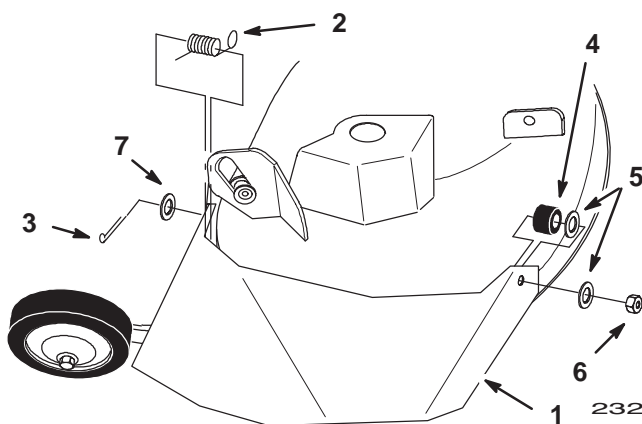

Figure 2
1. Locate items shown (Fig. 2).
2. Place spring short end into small hole in the discharge chute (Fig. 2).
3. Position spring and discharge chute over post on rear of deck and secure with a washer (1/2 in.) and a cotter pin (3/4 in.) (Fig. 2).
5. Place discharge chute over stud and secure with a plastic washer and jam nut (3/8 in.) (Fig. 2).